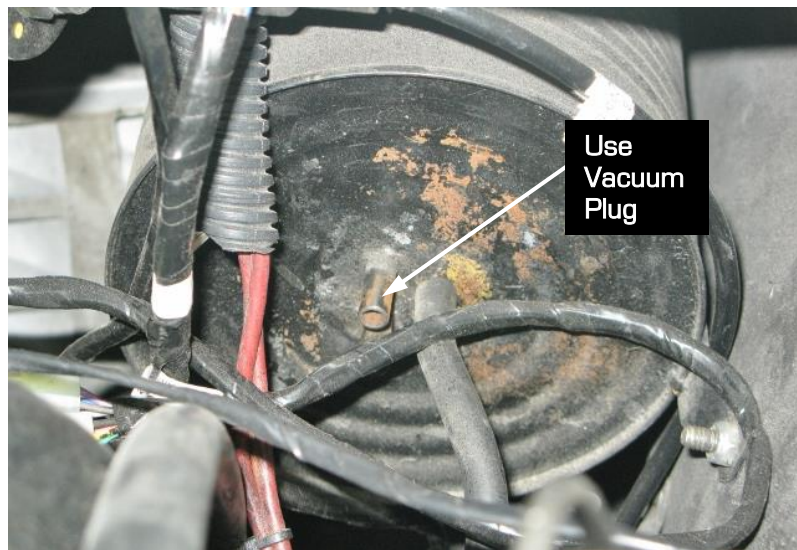

Figure 6 – Replace Hoses on Vacuum Tank with Plugs
6. Remove the vacuum actuator system from the vehicle along with any tanks, hoses, etc. as they will no longer be needed. **NOTE:** If you have a 1968-72 Corvette and are still using the stock wiper system, you will still need to keep the wiper door vacuum hoses and tank to operate the wiper door. You will need to use vacuum plugs on the vacuum tank or tube where you have removed the hoses for the headlight actuators (Figure 6 on the next page).